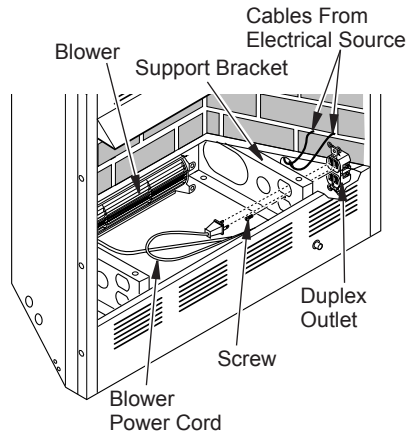

**Figure 8 - Routing Blower Accessory Power Cord for Conventional Installation**
2. Before replacing bottom of firebox, route blower power cord through hole in support bracket in bottom of firebox and through hole in side of firebox to grounded, three-prong 120 volt electrical outlet (see Figure 8). Plug electrical cord into outlet.